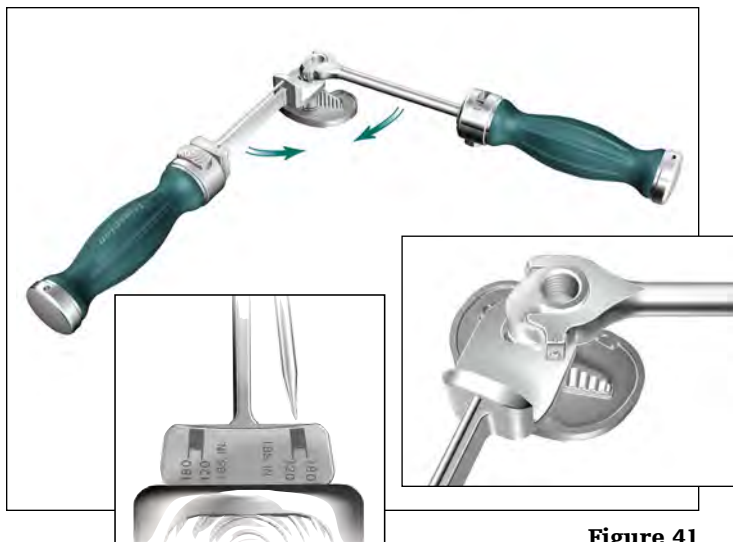

Figure 41
If not using a stem, re-torque end cap to 120 in-lbs using the Universal Torque Wrench as indicated in Figure 41.
- Tighten by pulling the wrenches **together**. Torque to 120 in-lbs as indicated on the Universal Torque Wrench. (**Figure 41**)